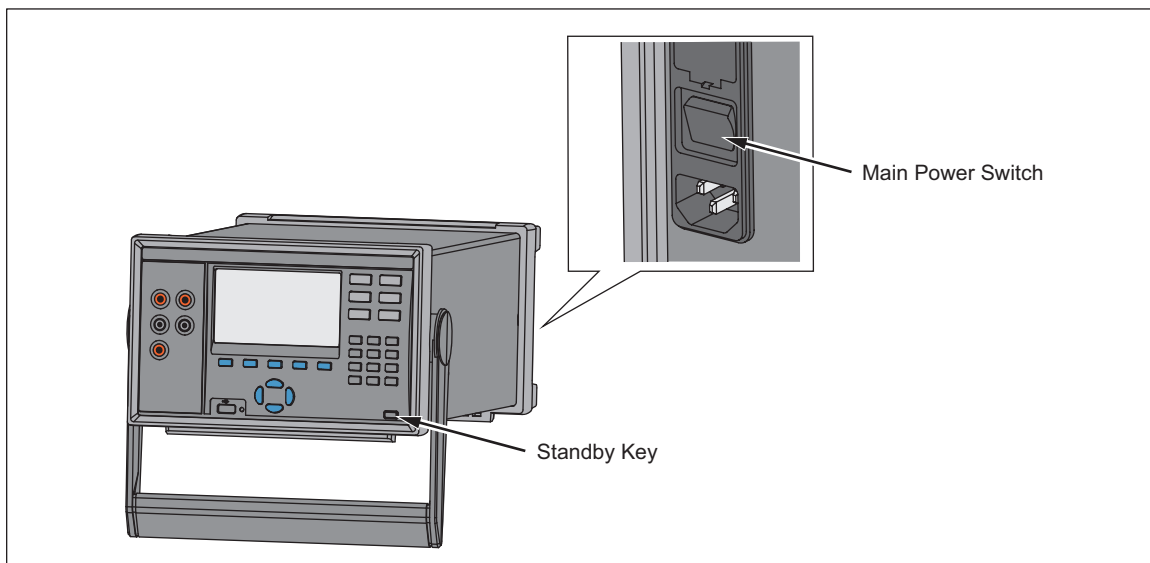

Figure 2-4. Main Power Switch and Standby Key
As shown in Figure 2-4, the Product has a main power switch located on the rear panel that supplies power to the unit, and a Standby key (Ⓜ) on the front panel that puts the Product in a standby mode. Push the (I) side of the main power switch to power on the Product. As the Product powers on, a startup screen is shown on the display while the Product performs a self-check. This self-check can take up to 2 minutes to complete and if the Product detects any errors, an error message is shown on the display that contains the error description along with an error code to help troubleshoot the problem (see “Error Messages” in Chapter 7).